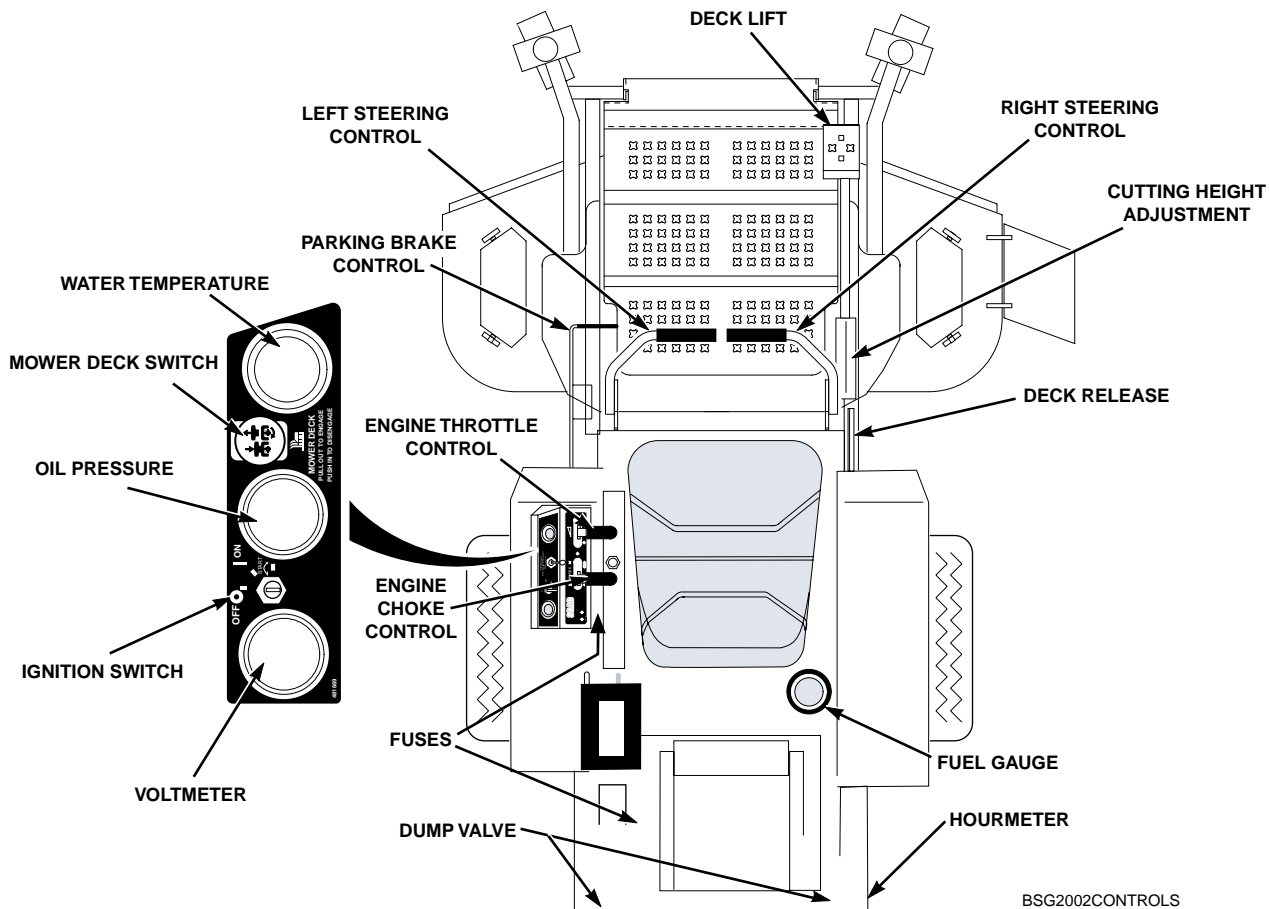

Figure 4-1 Controls and Instruments
- 1. Ignition Switch (Figure 4-1).** The ignition switch is used to start the engine and has three positions; OFF, ON, and START.
- 2. Mower Deck Switch (Figure 4-1).** Used to engage and disengage the mower drive system. Pulling up on the switch will engage the deck drive. Pushing down on the switch will disengage the deck drive.
- 3. Engine Choke Control (Figure 4-1).** Used to start a cold engine.
- 4. Engine Throttle Control (Figure 4-1).** Used to control the engine speed. Pushing the lever forward increases engine speed. Pulling the lever back decreases engine speed. Full back position is the IDLE position. Full forward is the cutting position.
5. **Voltmeter (Figure 4-1).** Indicates the condition of the charging system. When the engine is running, in normal operating conditions, the needle should be in the 12 to 14 volt range.
6. **Oil Pressure (Figure 4-1).** Indicates engine oil pressure. Reference the engine operator's manual for further information.
7. **Hourmeter (Figure 4-1).** Indicates the number of hours the engine has been operated. It operates whenever the engine is running. It can be used to keep track of maintenance intervals and the amount of time required to perform various tasks.
8. **Fuse Holders (Figure 4-1).** There are two 20-amp fuses and one 40-amp fuse that protect the mower's electrical system. To replace fuses, pull fuse out of the socket and install a new fuse.
9. **Left Steering Control (Figure 4-1).** Used to control the mower's left wheel when traveling forward or reverse.
10. **Right Steering Control (Figure 4-1).** Used to control the mower's right wheel when traveling forward or reverse.
11. **Parking Brake Control (Figure 4-1).** Used to engage and disengage the parking brakes. Pull the lever back to engage the parking brakes. Push the lever forward to disengage the parking brakes.
12. **Fuel Tank Gauge (Figure 4-1).** Indicates the amount of fuel in the fuel tank.
14. **Deck Lift Foot Lever (Figure 4-1).** Used to raise and lower the cutter deck.
15. **Cutting Height Adjustment (Figure 4-1).** Used to set the cutter deck at the desired cutting height.
16. **Deck Release Lever (Figure 4-1).** Used to lock the cutter deck in the transport position. Push the foot pedal forward and lift up on the release lever to release the cutter deck for normal mowing.
17. **Temperature Gauge (Figure 4-1).** Indicates the operating temperature of the engine.